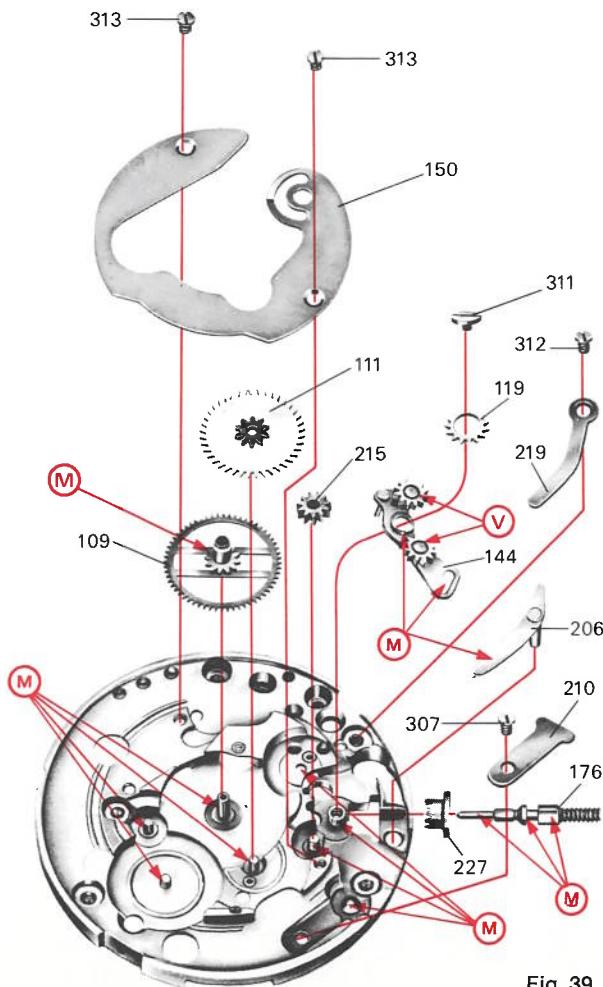
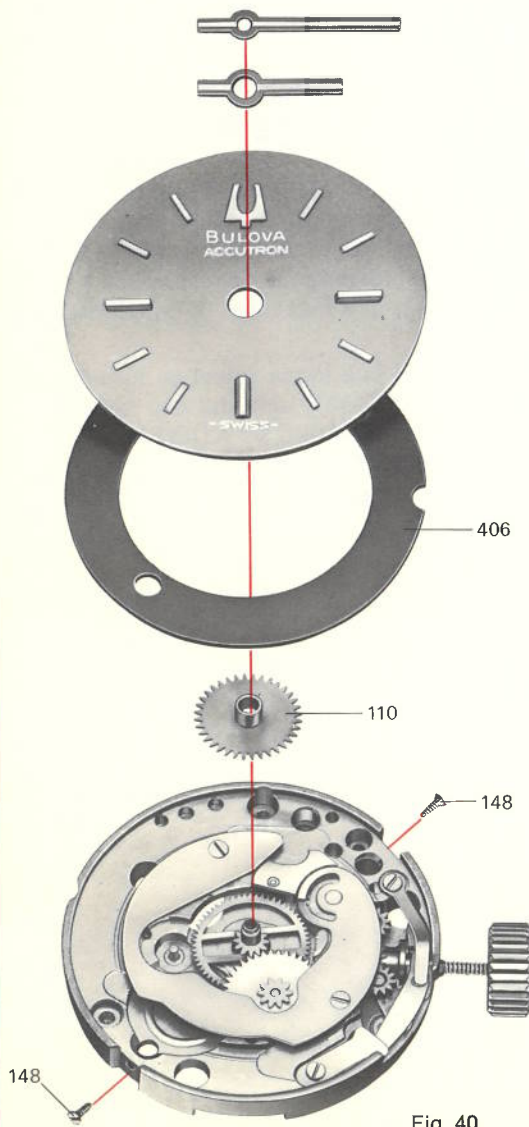

Fig. 39
Fig. 40
1. Reassembling of the dial side mechanism. (Fig. 39).
- a. Lubricate (M) setting stem, rocking bar assembly (144), setting level pin (206), friction point of setting lever and its spring (219).
- b. Assemble: rocking bar (144), setting pinion (227), setting stem (176), setting lever (206), setting lever spring (219), setting level pressure spring (210), centered on setting level, setting wheel (119), screw (311), setting wheel for minute wheel (215).
- c. Lubricate: (M) cannon pinion with its center wheel (109) 2300 (579—2301 & 2302).
- d. Lubricate: (M) center tube, and post for setting wheel.
- e. Lubricate: (V) intermediate setting wheels on #144.
- f. Assemble: cannon pinion and wheel (109/579), setting cover (150).
- a. Assemble: Hour wheel (110) and dial washer (if there is one), dial support ring (406) dial and screws (148). (Fig. 40).